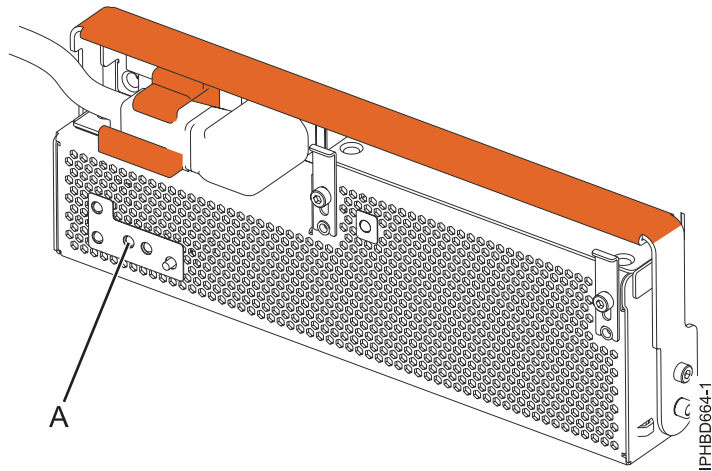

Figure 5. FRU fault and identify LED
4. At the front of the expansion unit, identify the power supply that needs to be replaced. To identify the power supply, observe the state of the amber field-replaceable unit (FRU) fault and identify light-emitting diode (LED) (A) as shown in Figure 5 on page 9. A lit (on solid or flashing) LED indicates the failing power supply.